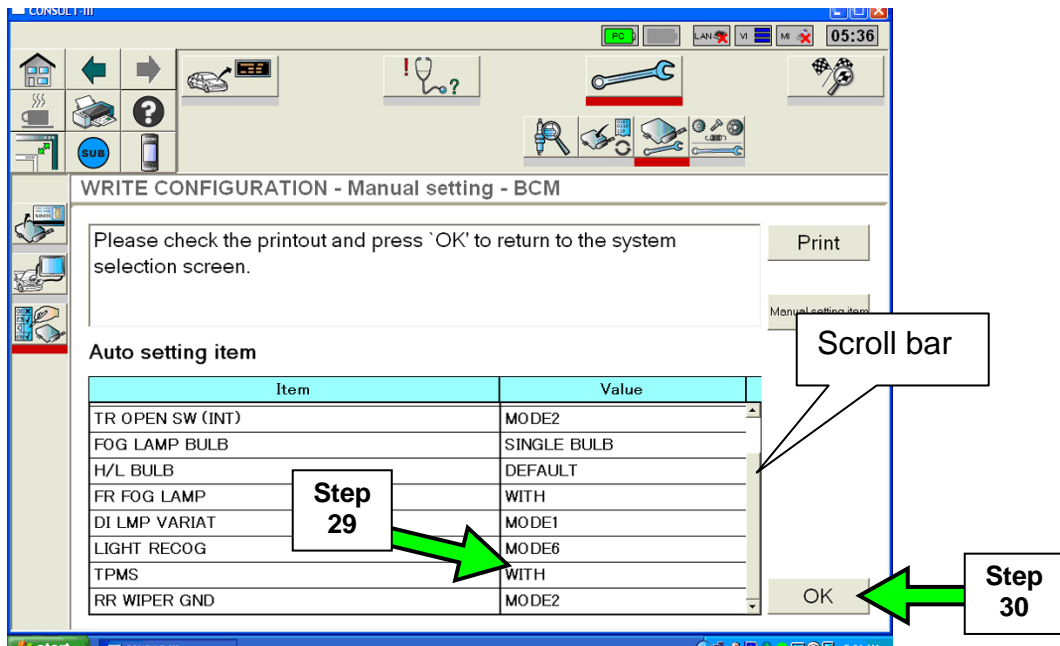

Figure 15
29. Use the scroll bar to find the TPMS setting and make sure it is set to **“With”** (see Figure 15).